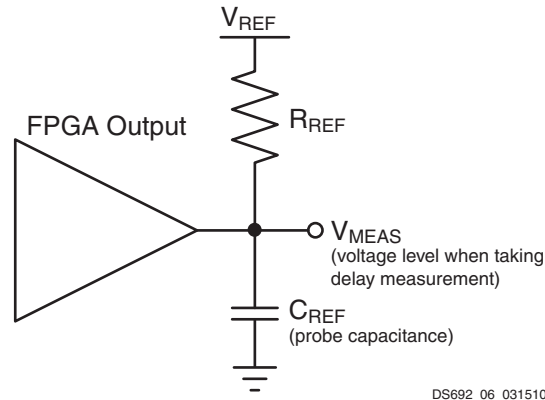
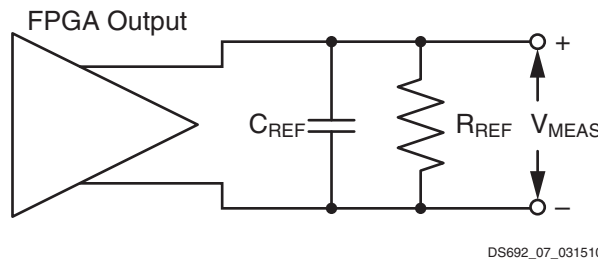

Figure 6: Single-Ended Test Setup
Figure 7: Differential Test Setup
5. This is an input voltage reference that bears no relation to the  $V_{REF} / V_{MEAS}$  parameters found in IBIS models and/or noted in Figure 6.
Output delays are measured using a Tektronix P6245 TDS500/600 probe (< 1 pF) across approximately 4 inches of FR4 microstrip trace. Standard termination was used for all testing. The propagation delay of the 4-inch trace is characterized separately and subtracted from the final measurement, and is therefore not included in the generalized test setups shown in Figure 6 and Figure 7.